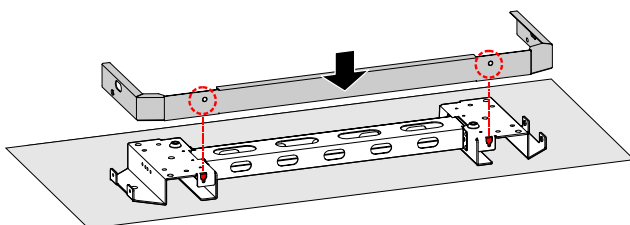
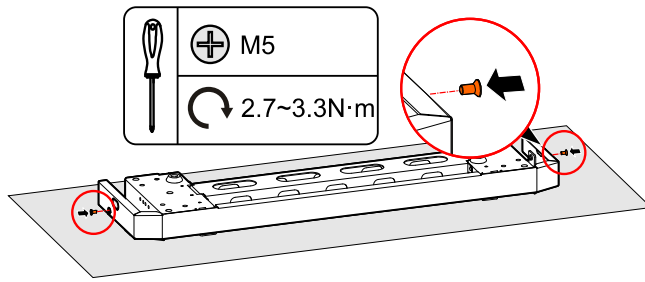

Figure3-10 Install the cover plate
Figure3-11 Fasten the cover plate
Step 6 Lead the cover plate into the base module and fix it with screws, as shown in Figure3-10, Figure3-11.